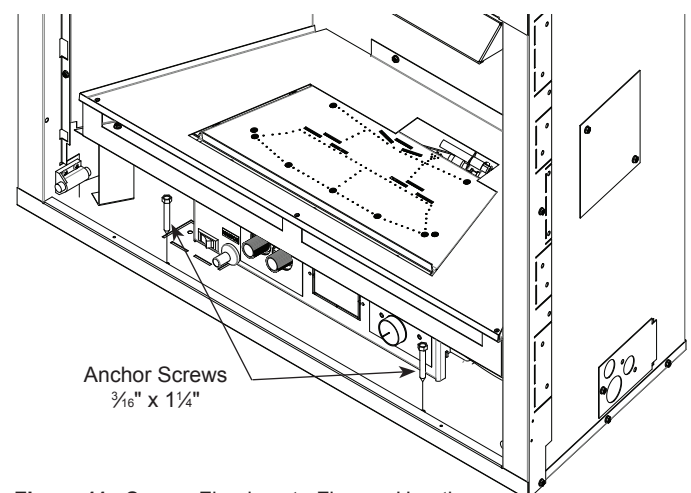

Figure 11. Secure Fireplace to Floor or Hearth
2. Secure the firebox with two anchoring screws ($\frac{3}{16}$ " x $1\frac{1}{4}$ " length) supplied with the fireplace system. Figure 11.